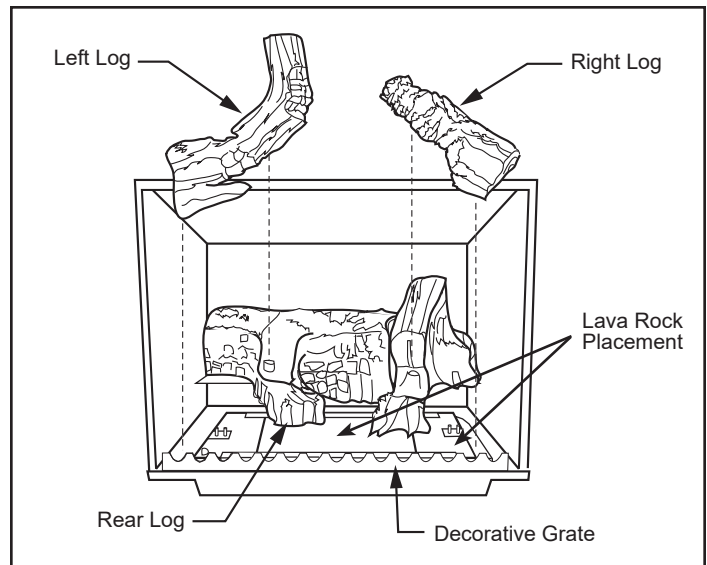

Figure 34 - Install the back, left and right logs.
2. Install the rear log by centering it to the rear of the firebox on the sheet metal shelf, Figure 34. The log should touch the back wall of the firebox when installed properly.
3. Place the right log by matching the hole on the underside of the right log with the pin located on top of the rear log, Figure 34. Set the front of the log on the burner and push toward the right side of the firebox, the front right corner of the log will touch the side wall of the firebox.
4. Place the left log by matching the hole on the underside of the left log with the pin located on top of the rear log, Figure 34. Set the front of the log on the burner and push toward the left side of the firebox, the front left corner of the log will touch the side wall of the firebox.
5. Lay the lava rocks in the open area of the burner in front of and between the decorative grate and the right and left logs. Use the lava rock to cover brackets on the burner, Figure 34.